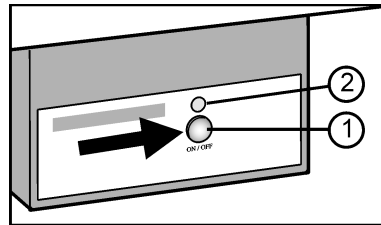

Fig. 4
- ▶ Press On/Off button Fig. 4 (1) so that the LED Fig. 4 (2) lights up.